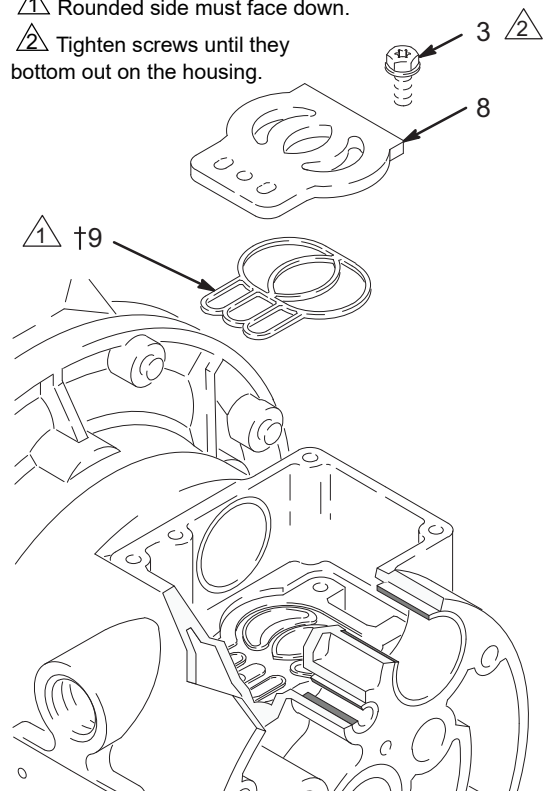

Fig. 11
5. Inspect the valve plate (8) in place. If damaged, use a Torx (T20) screwdriver or 7 mm (9/32") socket wrench to remove the three screws (3). Remove the valve plate (8) and seal (9). See Fig. 11.
2. Install the valve plate seal (9=) into the groove at the bottom of the valve cavity. The rounded side of the seal **must face down** into the groove. See Fig. 11.
3. Install the valve plate (8) in the cavity. The plate is reversible, so either side can face up. Install the three screws (3), using a Torx (T20) screwdriver or 7 mm (9/32") socket wrench. Tighten until the screws bottom out on the housing. See Fig. 11.